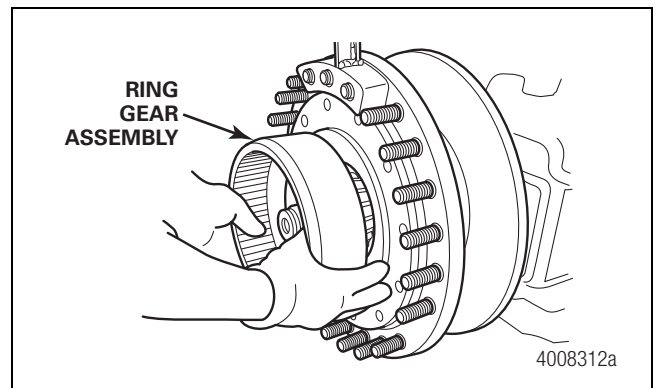

Figure 5.10
4. Remove the ring gear assembly from the spindle. Figure 5.10.